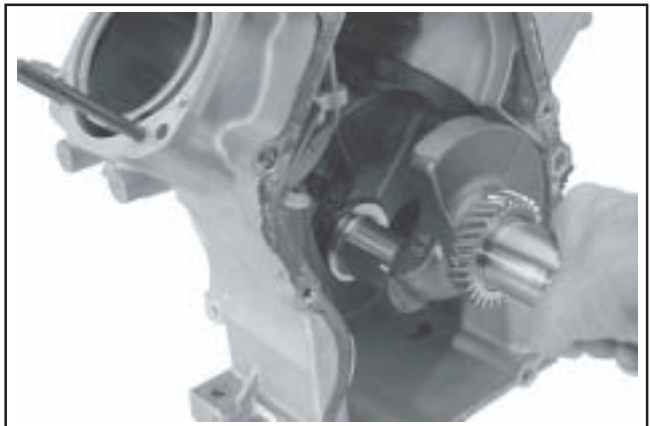

Figure 9-63. Removing Crankshaft.
1. Carefully pull the crankshaft from the crankcase. See Figure 9-63. Note the thrust washer and shims if used.